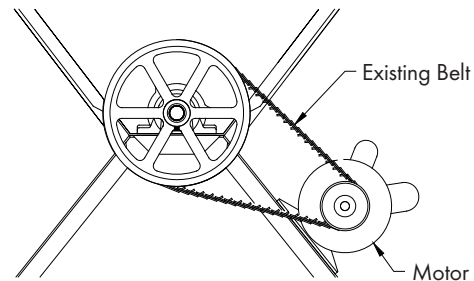
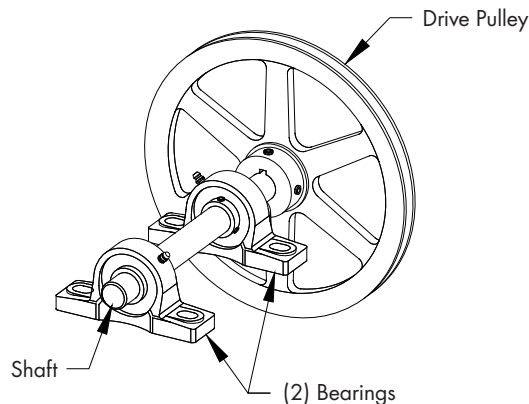

Figure 2
Figure 3
Disconnect electrical power leads from motor. *See Figure 2.*
Remove existing drive belt (as necessary). *See Figure 2.*
Before removing Propeller, place an alignment mark on shaft with a marker. This will be used later to reinstall the Propeller to this location. Take Propeller off the shaft, remove belt tensioner and bearing assembly (if applicable). The bearing assembly consists of two (2) bearings, a shaft and drive pulley. *See Figure 3.* Remove the motor from the strut. *See Figure 2.*